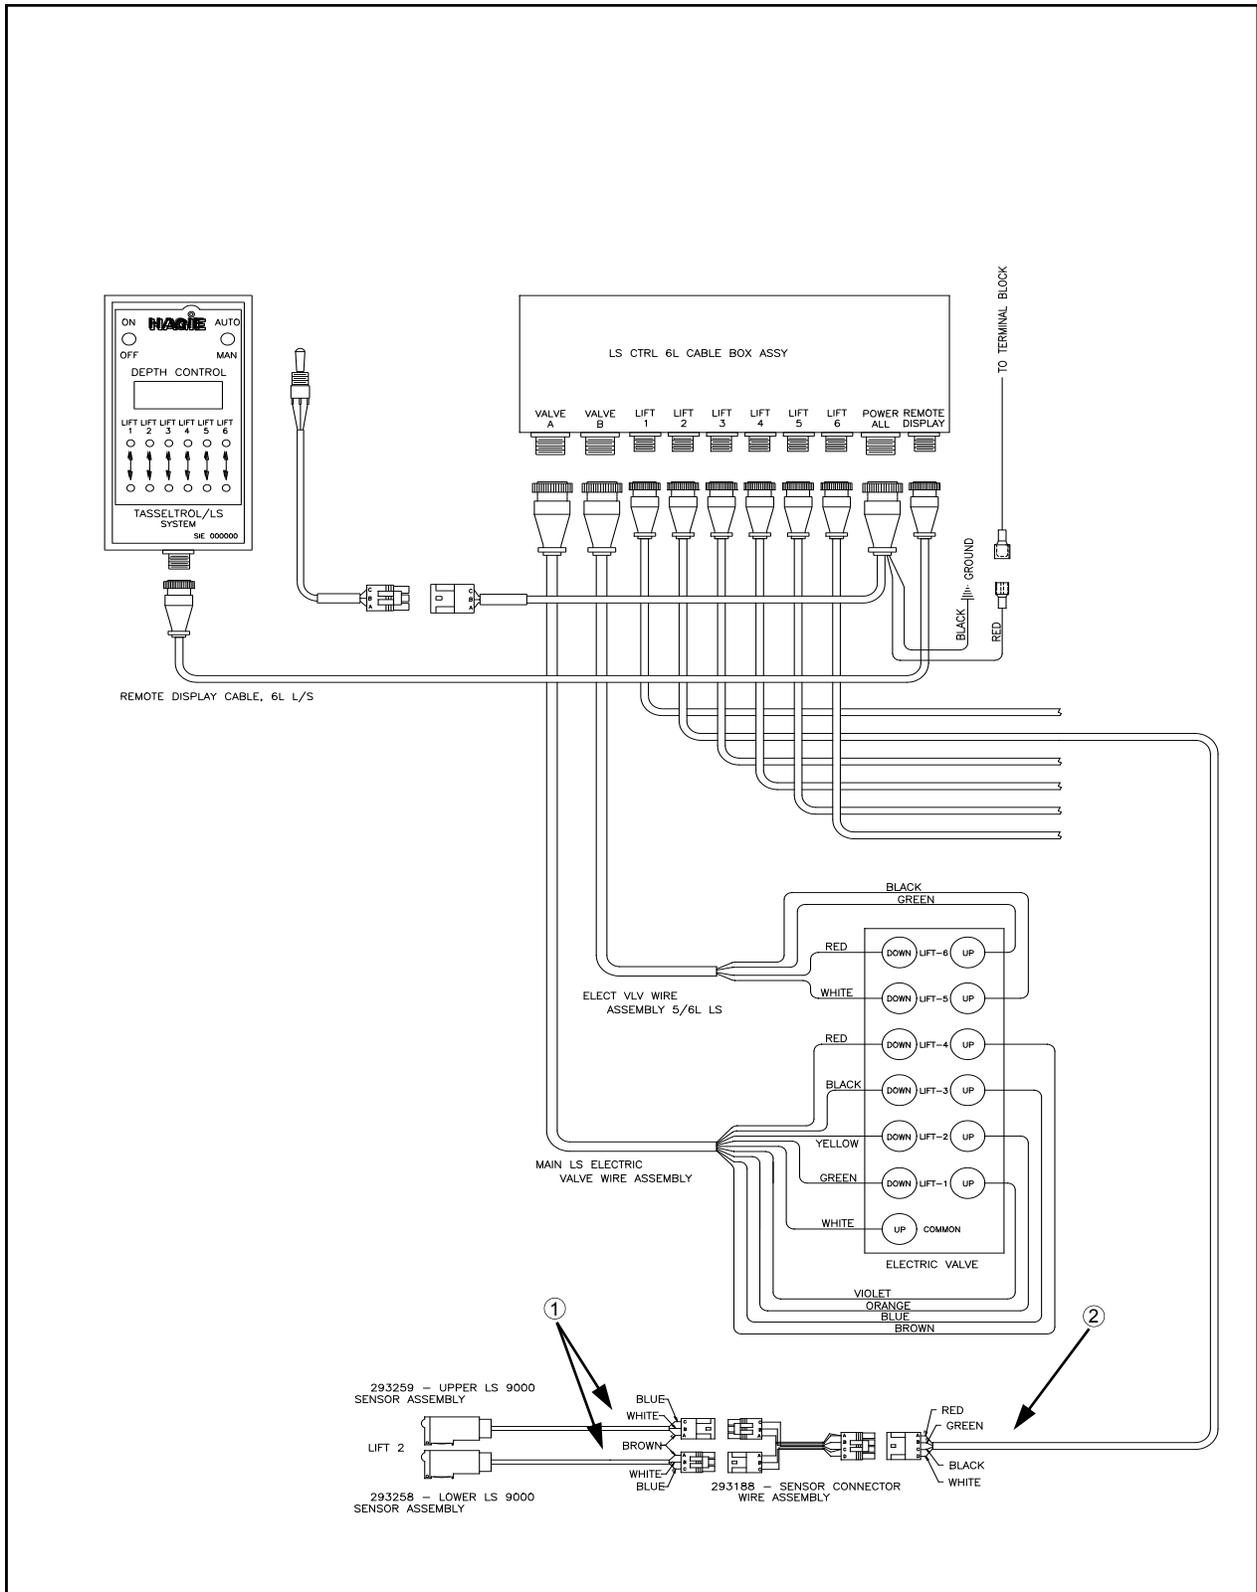

FIG 9.1
No lights at either photo sensor	Faulty connector cable (See page 130, fig. 9.1, item 2) Faulty RED and/or BLACK wire in connector cable (See page 130, fig. 9.1, item 1)
Lights at lower photo sensor	<p>Faulty GREEN wire in connector cable (See page 130, fig. 9.1, item 2)</p> <p>Photo sensor not in line with reflector (See page 37)</p> <p>Faulty BLUE wire in sensor assembly (See page 130, fig. 9.1, item 1)</p>
No lights at lower photo sensor	<p>Faulty RED and/or BLACK wire in connector cable (See page 130, fig. 9.1, item 2)</p>
Lights at upper photo sensor	Faulty WHITE wire in sensor assembly (See page 130, fig. 9.1, item 1) Faulty BLUE wire in sensor assembly (See page 130, fig. 9.1, item 1)
No lights at upper photo sensor	Faulty RED and/or BLACK wire in connector cable (See page 130, fig. 9.1, item 2)